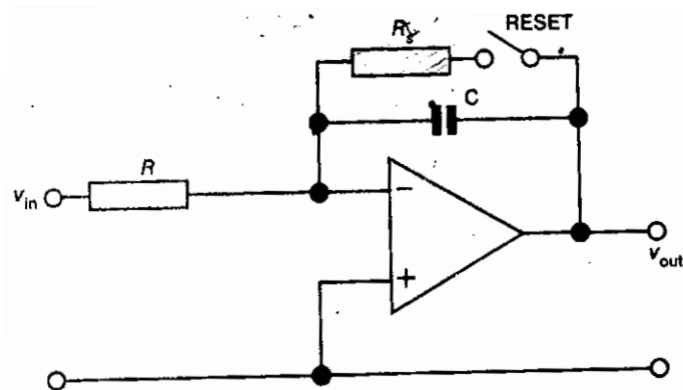

Figure 8.8 The op – amp as an integrator
5) Integrator, see Figure 8.8 and Figure 8.9.